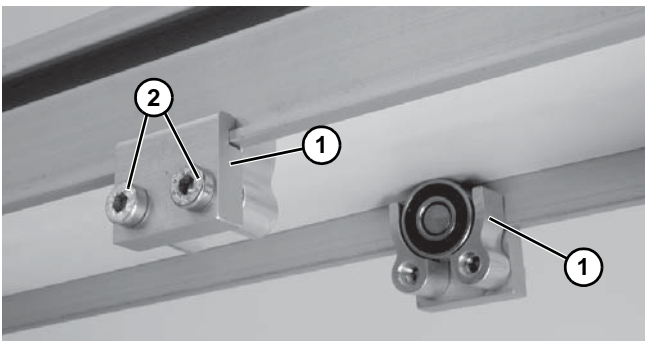

Figure 19
3. Install roller assemblies (Figure 19, item 1) as shown. Tighten screws (Figure 19, item 2) to 60 in-lb (7 Nm).